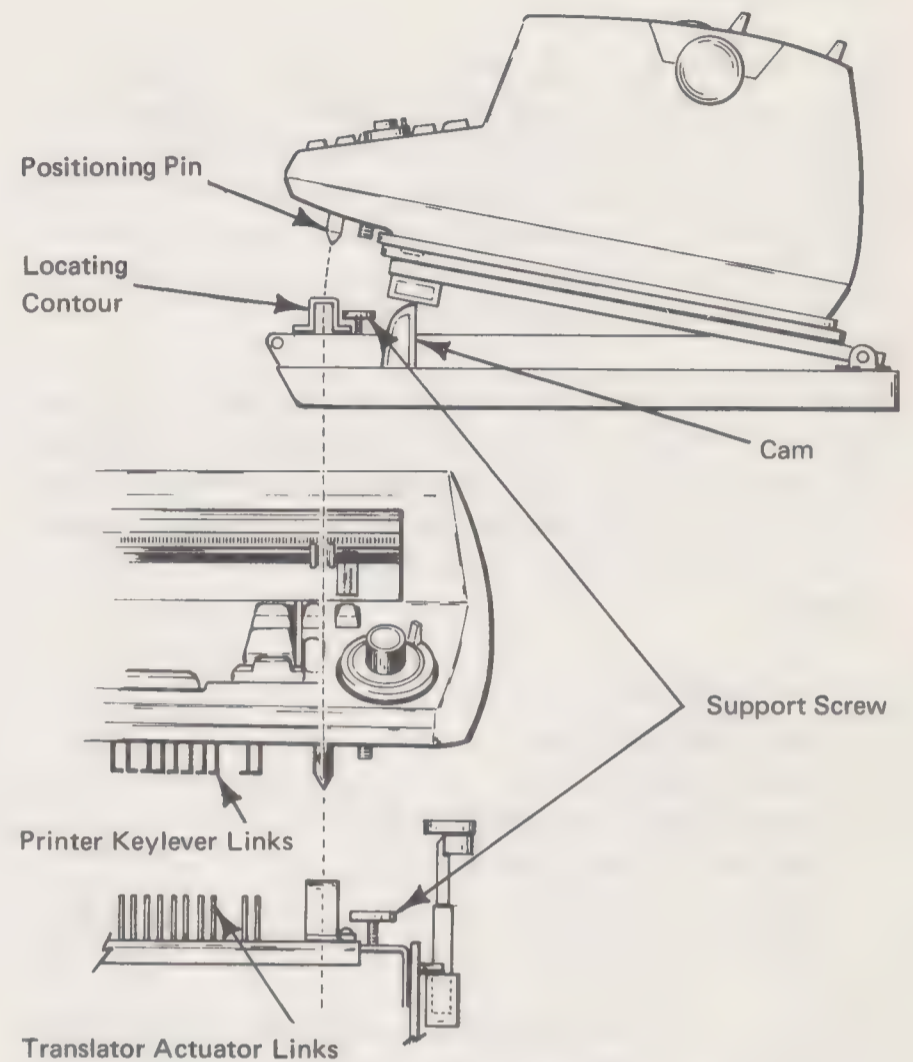

Figure 1
The printer may be raised and lowered on a spring loaded Printer Support Frame which mounts and pivots on two studs mounted in the rear of the Translator stationary frame (Fig. 1). The spring counter-balances the weight of the printer, allowing the printer and support frame to be raised and lowered by turning a knob located under the console desk. Positioning pins on the printer seat in locating contours, mounted on the front of the Translator frame, assuring the printer keylever links will be aligned with the Translator actuator links. In the operating position, the printer rests on three (3) adjustable support screws. One support screw is located in the back and one on either side at the front. An adjustable screw on each side of the printer bottom cover rests on the two front support screws. Individual adjustment of the support and cover screws allows compatibility between different printers on the same translator. As the printer is raised and lowered, the Translator actuator links are cammed backward and forward. This allows the actuator links and printer keylever links to be automatically disconnected or connected as the printer is raised or lowered.